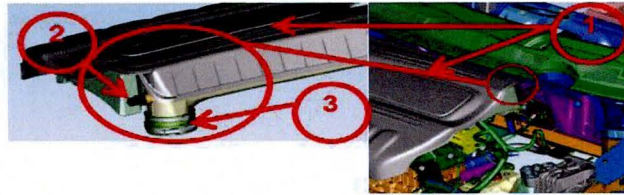

Fig. 1 Engine Cover
2. Inspect the cuff for possible deformation by using your fingers to feel for the bottom rib of the cuff just below the clamp (Fig. 1).